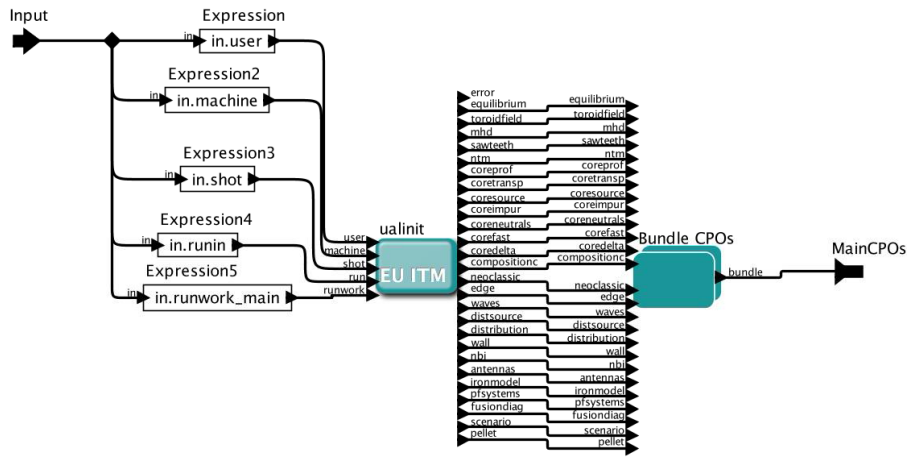

Figure 5. The UAL_read_main_CP0s composite actor, part of UalGetCpoBundle .
- The second actor reads all the main CPOs from the input run number InputRunNumber and is called UAL_read_main_CPOs (see figure 5).